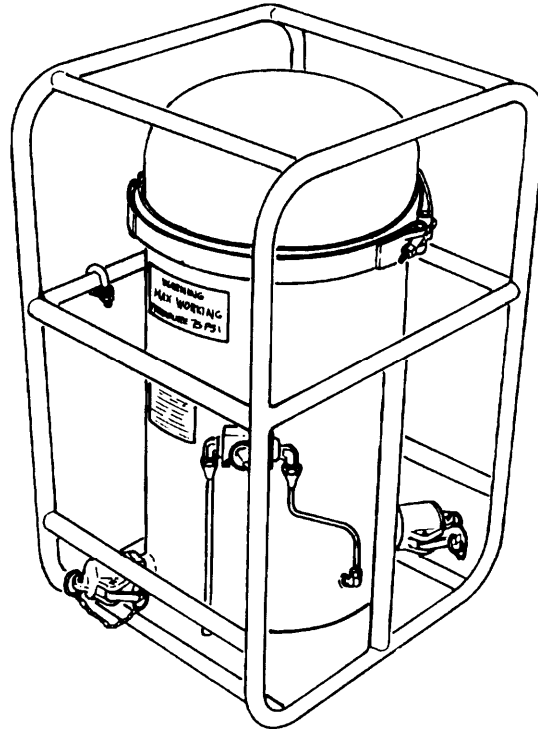

Figure 1-12. Filter Separator Assembly.
**1-17. FILTER SEPARATOR ASSEMBLY.** (Refer to Figure 1-12.)